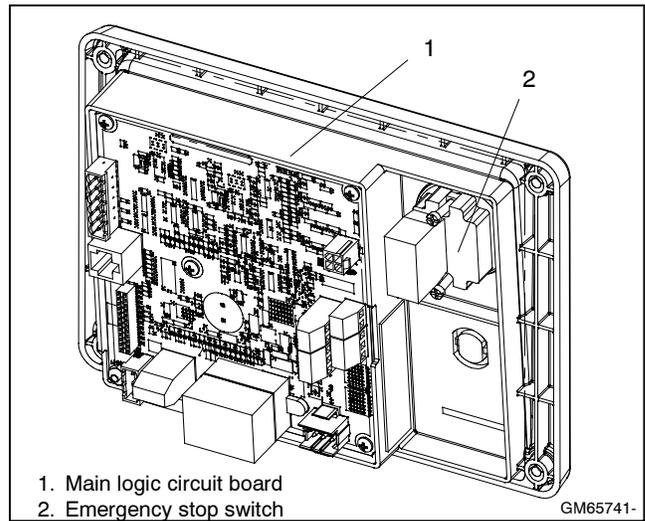
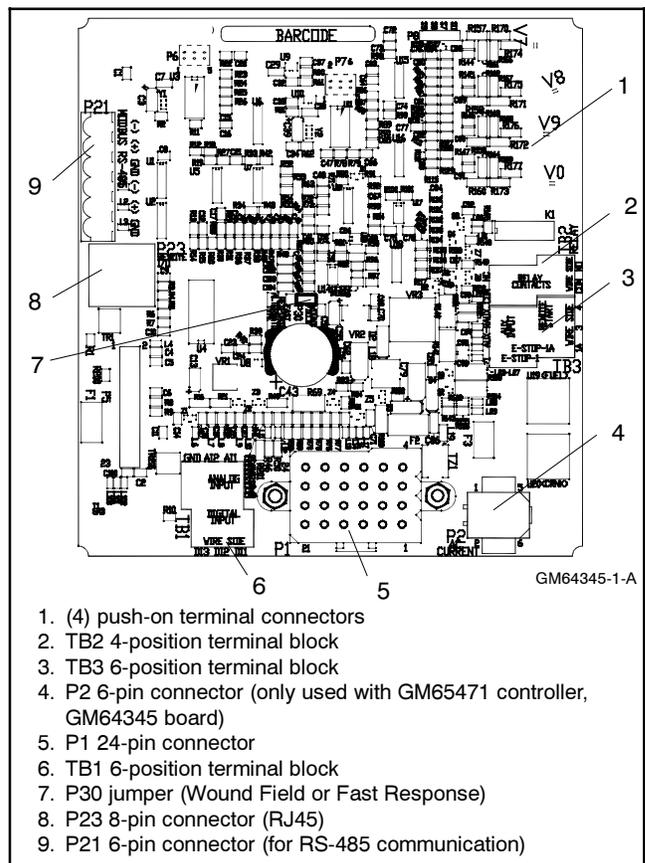
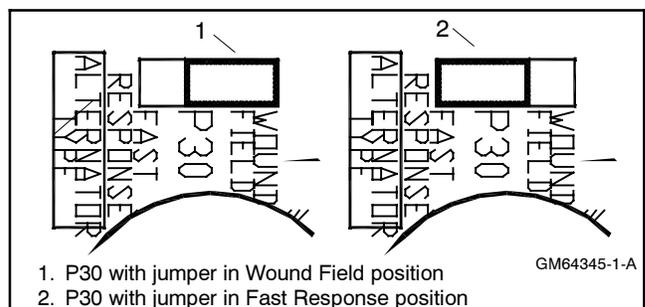

Figure 2 Main Circuit Board and E-Stop Switch
Figure 3 Main Circuit (Blue) Board Connectors
Figure 4 P30 3-Pin Connector and 2-Pin Jumper
3.3 Disconnect the controller harness leads. Listed below are some common leads and plugs that require removal or disconnection. Items below in **bold** are shown in Figure 2 and Figure 3. These connections are typical and may not apply to all applications. See the corresponding wiring diagram found in the respective wiring diagrams manual.
- **(4) Push-on Terminal Connectors** for V7/V8/V9/V0 for generator set output voltage connection.
- **P30 3-Pin Connector (2-Pin Jumper)** for selection of alternator type—Wound Field (300 kW and larger) or Fast Response (less than 350 kW). Take note of the original circuit board jumper position. See Figure 4.
4.2 Reconnect all of the remaining electrical connections disconnected in step 3.3. Refer to Figure 2 and Figure 3.